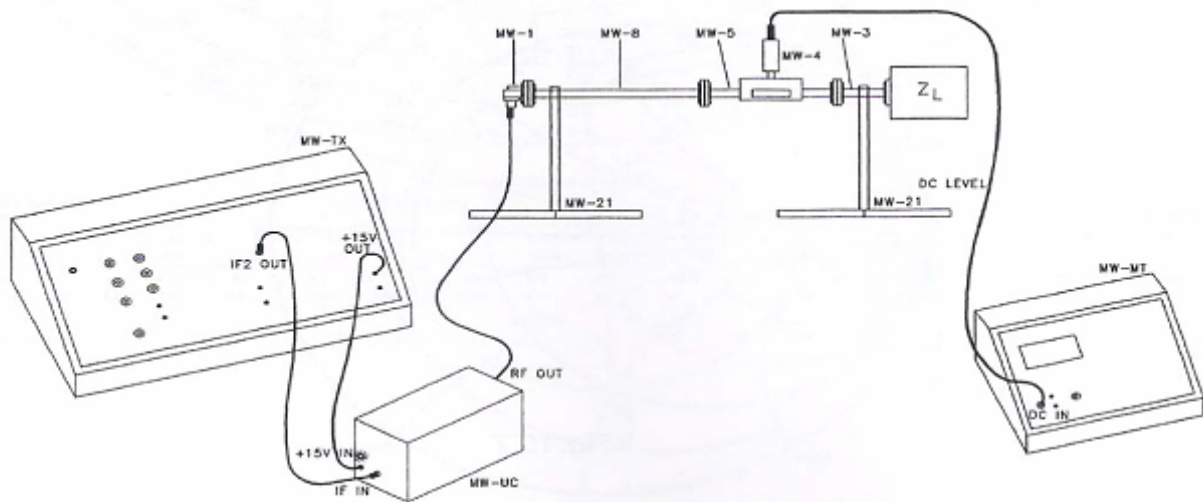

Figure 4
1. Carry out wiring between the unit as indicated in *Figure 4*.